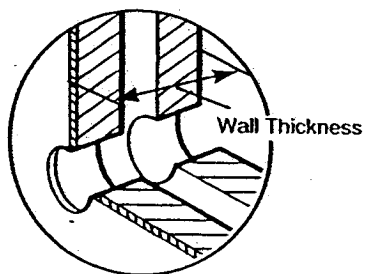

Fig. 61
3. Measure the wall thickness and from this dimension subtract 10mm ( $\frac{7}{8}$  in) (Fig. 61).